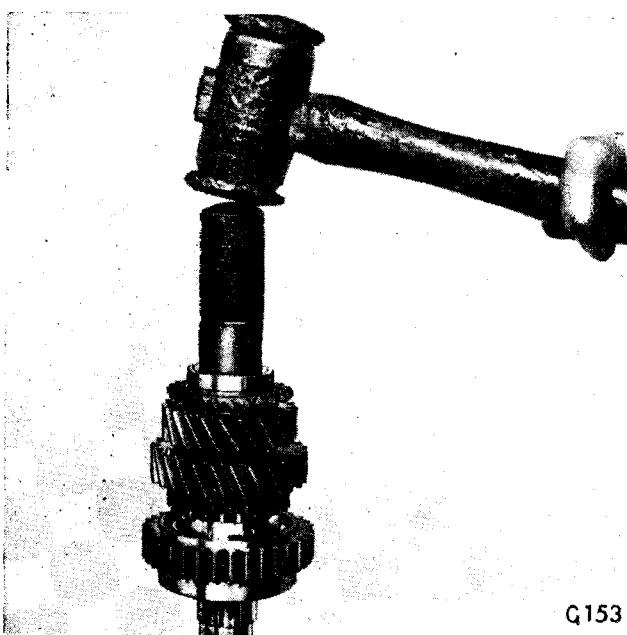

Fig. 33. Removing mainshaft circlip
- Third gear baulk ring (32).
- Thrust washer (14).
- First speed gear (15).
- First gear baulk ring (16).
Using Tool No. S.144, remove the circlip (30), (Fig. 33).